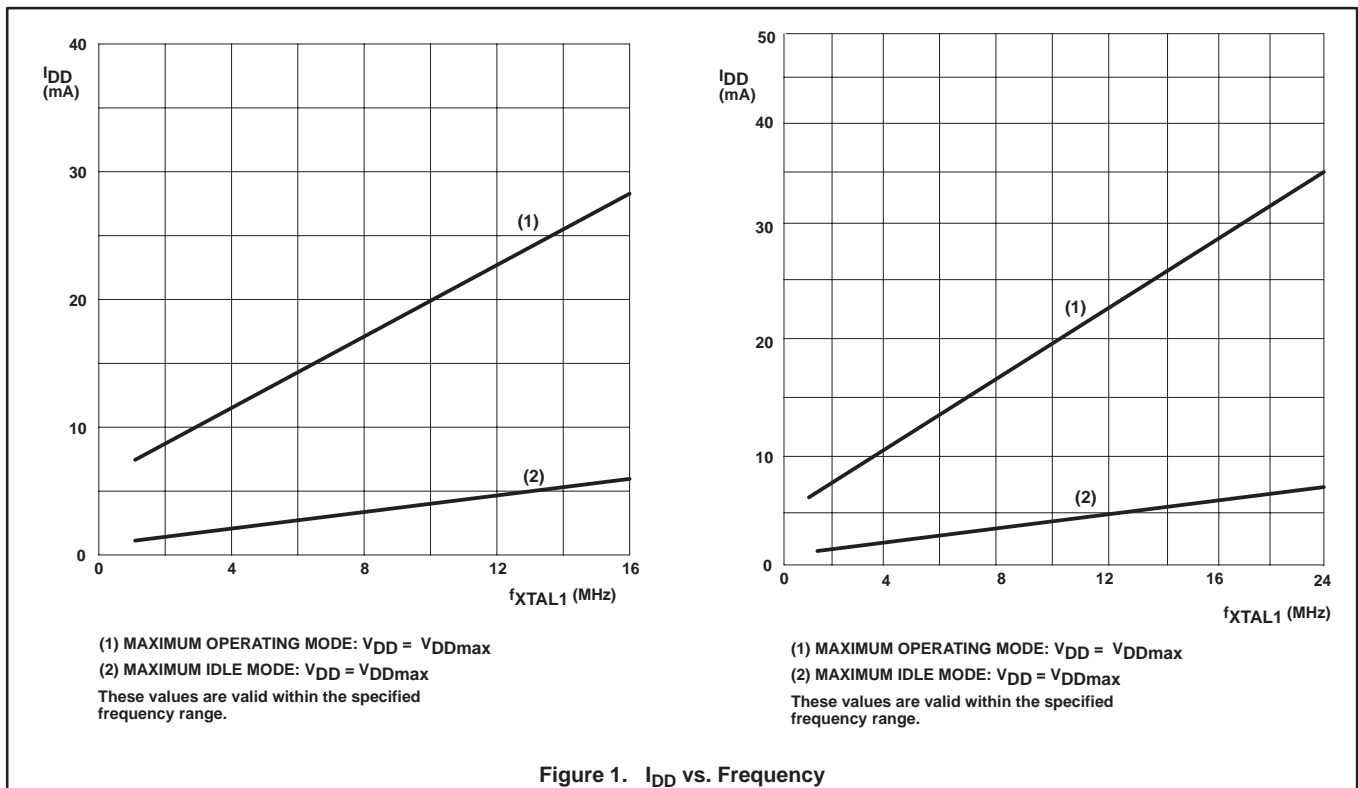

Figure 1.  $I_{DD}$  vs. Frequency
11.  $I_{DDMAX}$  for other frequencies can be derived from Figure 1, where  $FREQ$  is the external oscillator frequency in MHz.  $I_{DDMAX}$  is given in mA.